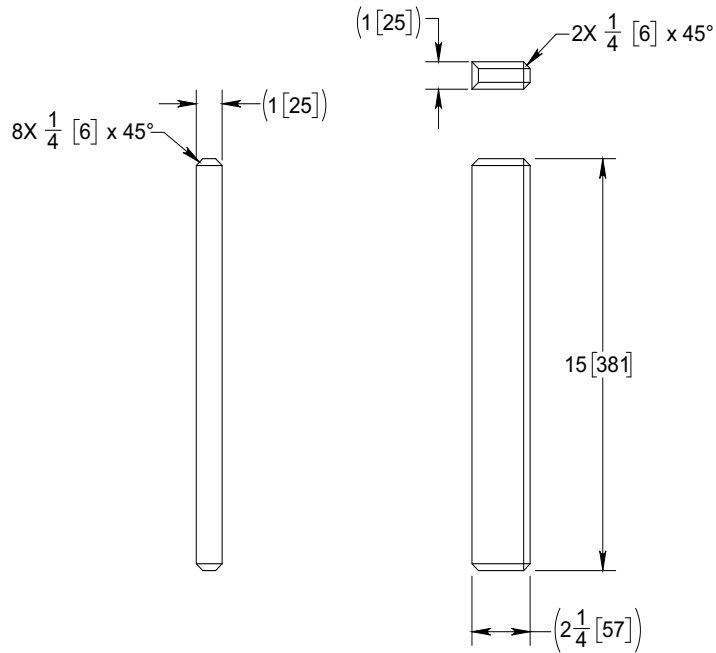

Figure 3: Plate P/N: DT27200-1
- Using ASTM A36 material, fabricate two (2) plates (item 1 on Table 1 on page 3) as indicated in Figure 3.